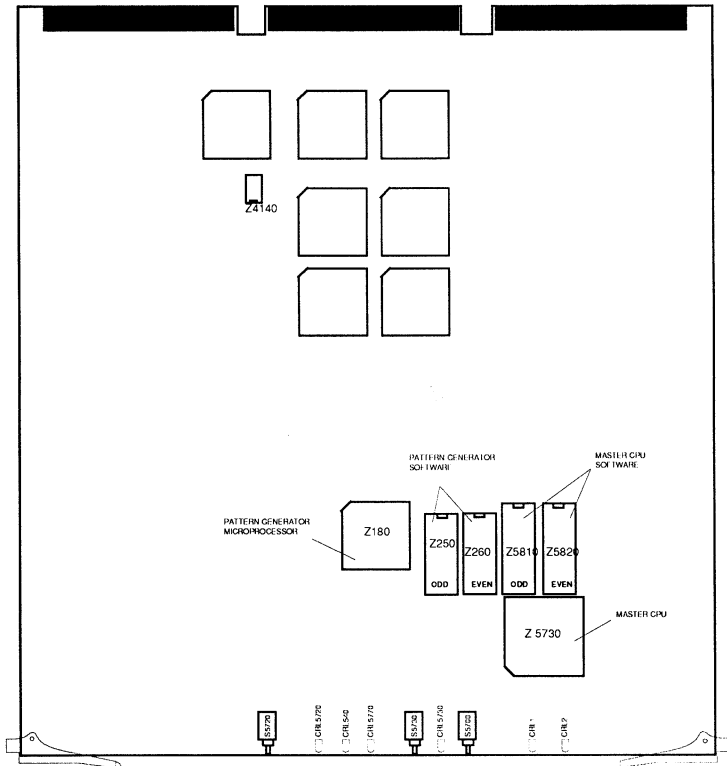

fig. 3: Processing board
- Remove the Processing board, and replace the circuits Z5810 & Z 5820 (see fig. 3 below)